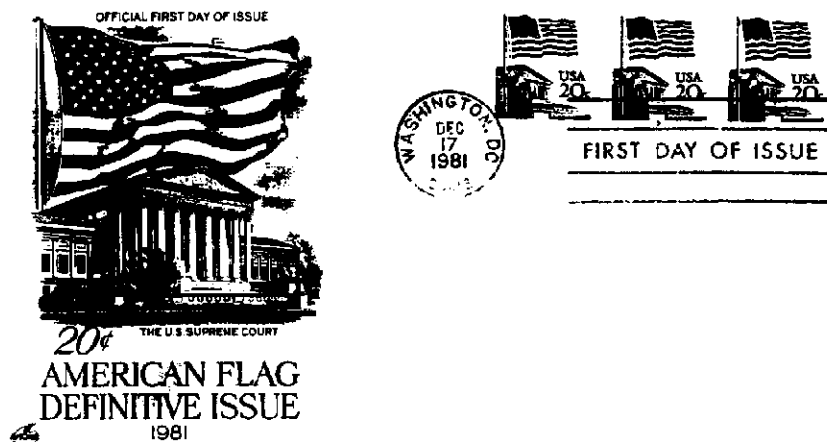

Figure 3: On Plate 3 of the 20¢ Flag, the dial bottom is usually weak.
1) The "FIRST DAY OF ISSUE" (FDOI) cancellation should be strong and legible. It should not be off center and should touch the stamp. Figure 3 is an example of an exception to this rule.